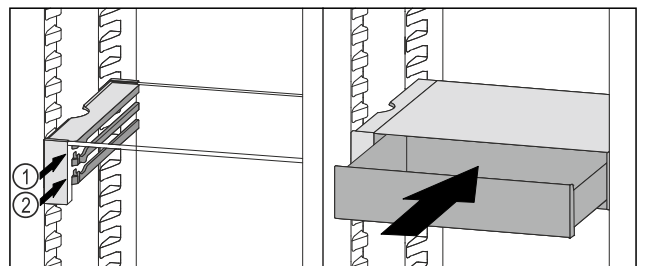

Fig. 85
- ▶ Place the VarioSafe drawer behind the stoppers on desired rib Fig. 85 (1) or Fig. 85 (2).